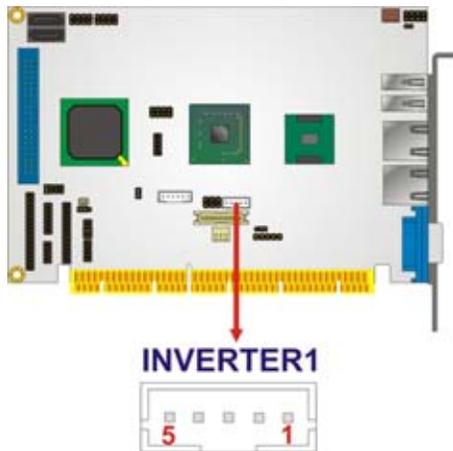

Figure 3-5: LCD Backlight Connector Pinout Locations
- CN Location:** See Figure 3-5